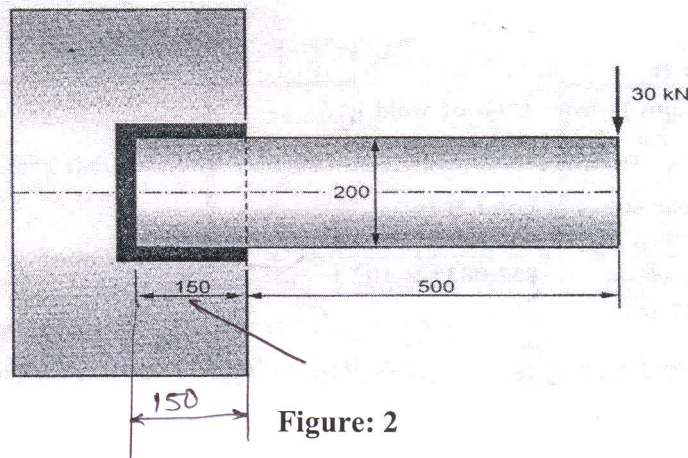

Figure: 2
- b) A welded bracket as shown in figure 2 carries a load of 30 kN. Calculate size of weld if greatest allowable shear stress in weld is 80 N/mm^2 . [12]